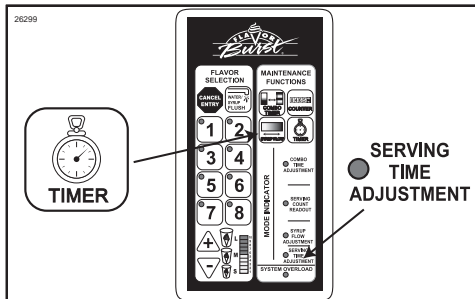

Figure 197
- Press the TIMER key to exit the mode and lock in the setting. Repeat this process for each serving size (small, medium and large) until the desired serving time for each size is set. (See Figure 197.)